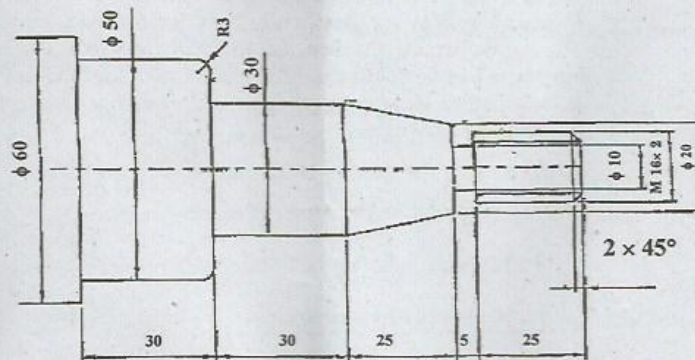

Fig. Q. 15 (b)
- (b) Write CNC part program for the component shown in Fig Q.15(b) Mention the assumptions made. (16)